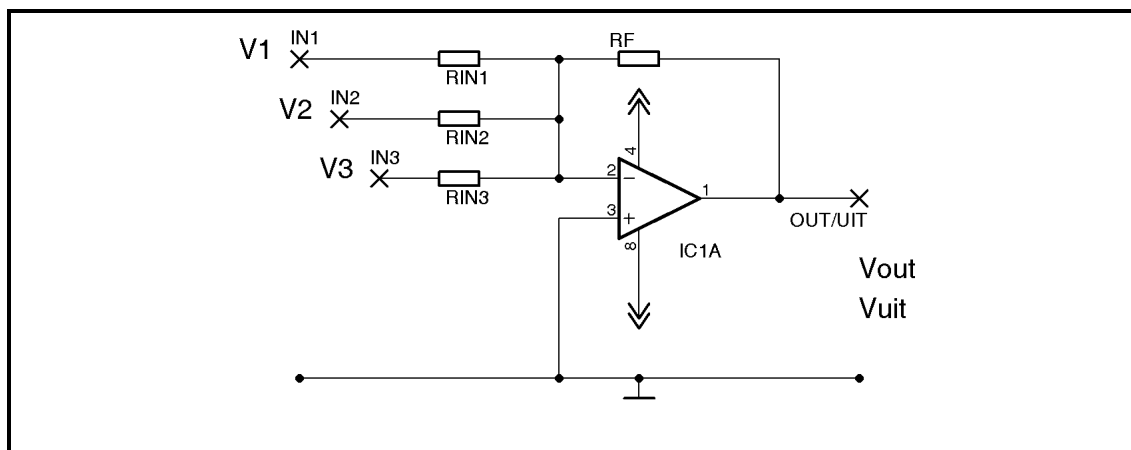

FIGURE 7.3: OP-AMP CIRCUIT
7.9 Refer to FIGURE 7.3 to answer the questions that follow.
7.9.1 Identify the op-amp circuit in FIGURE 7.3. (1)